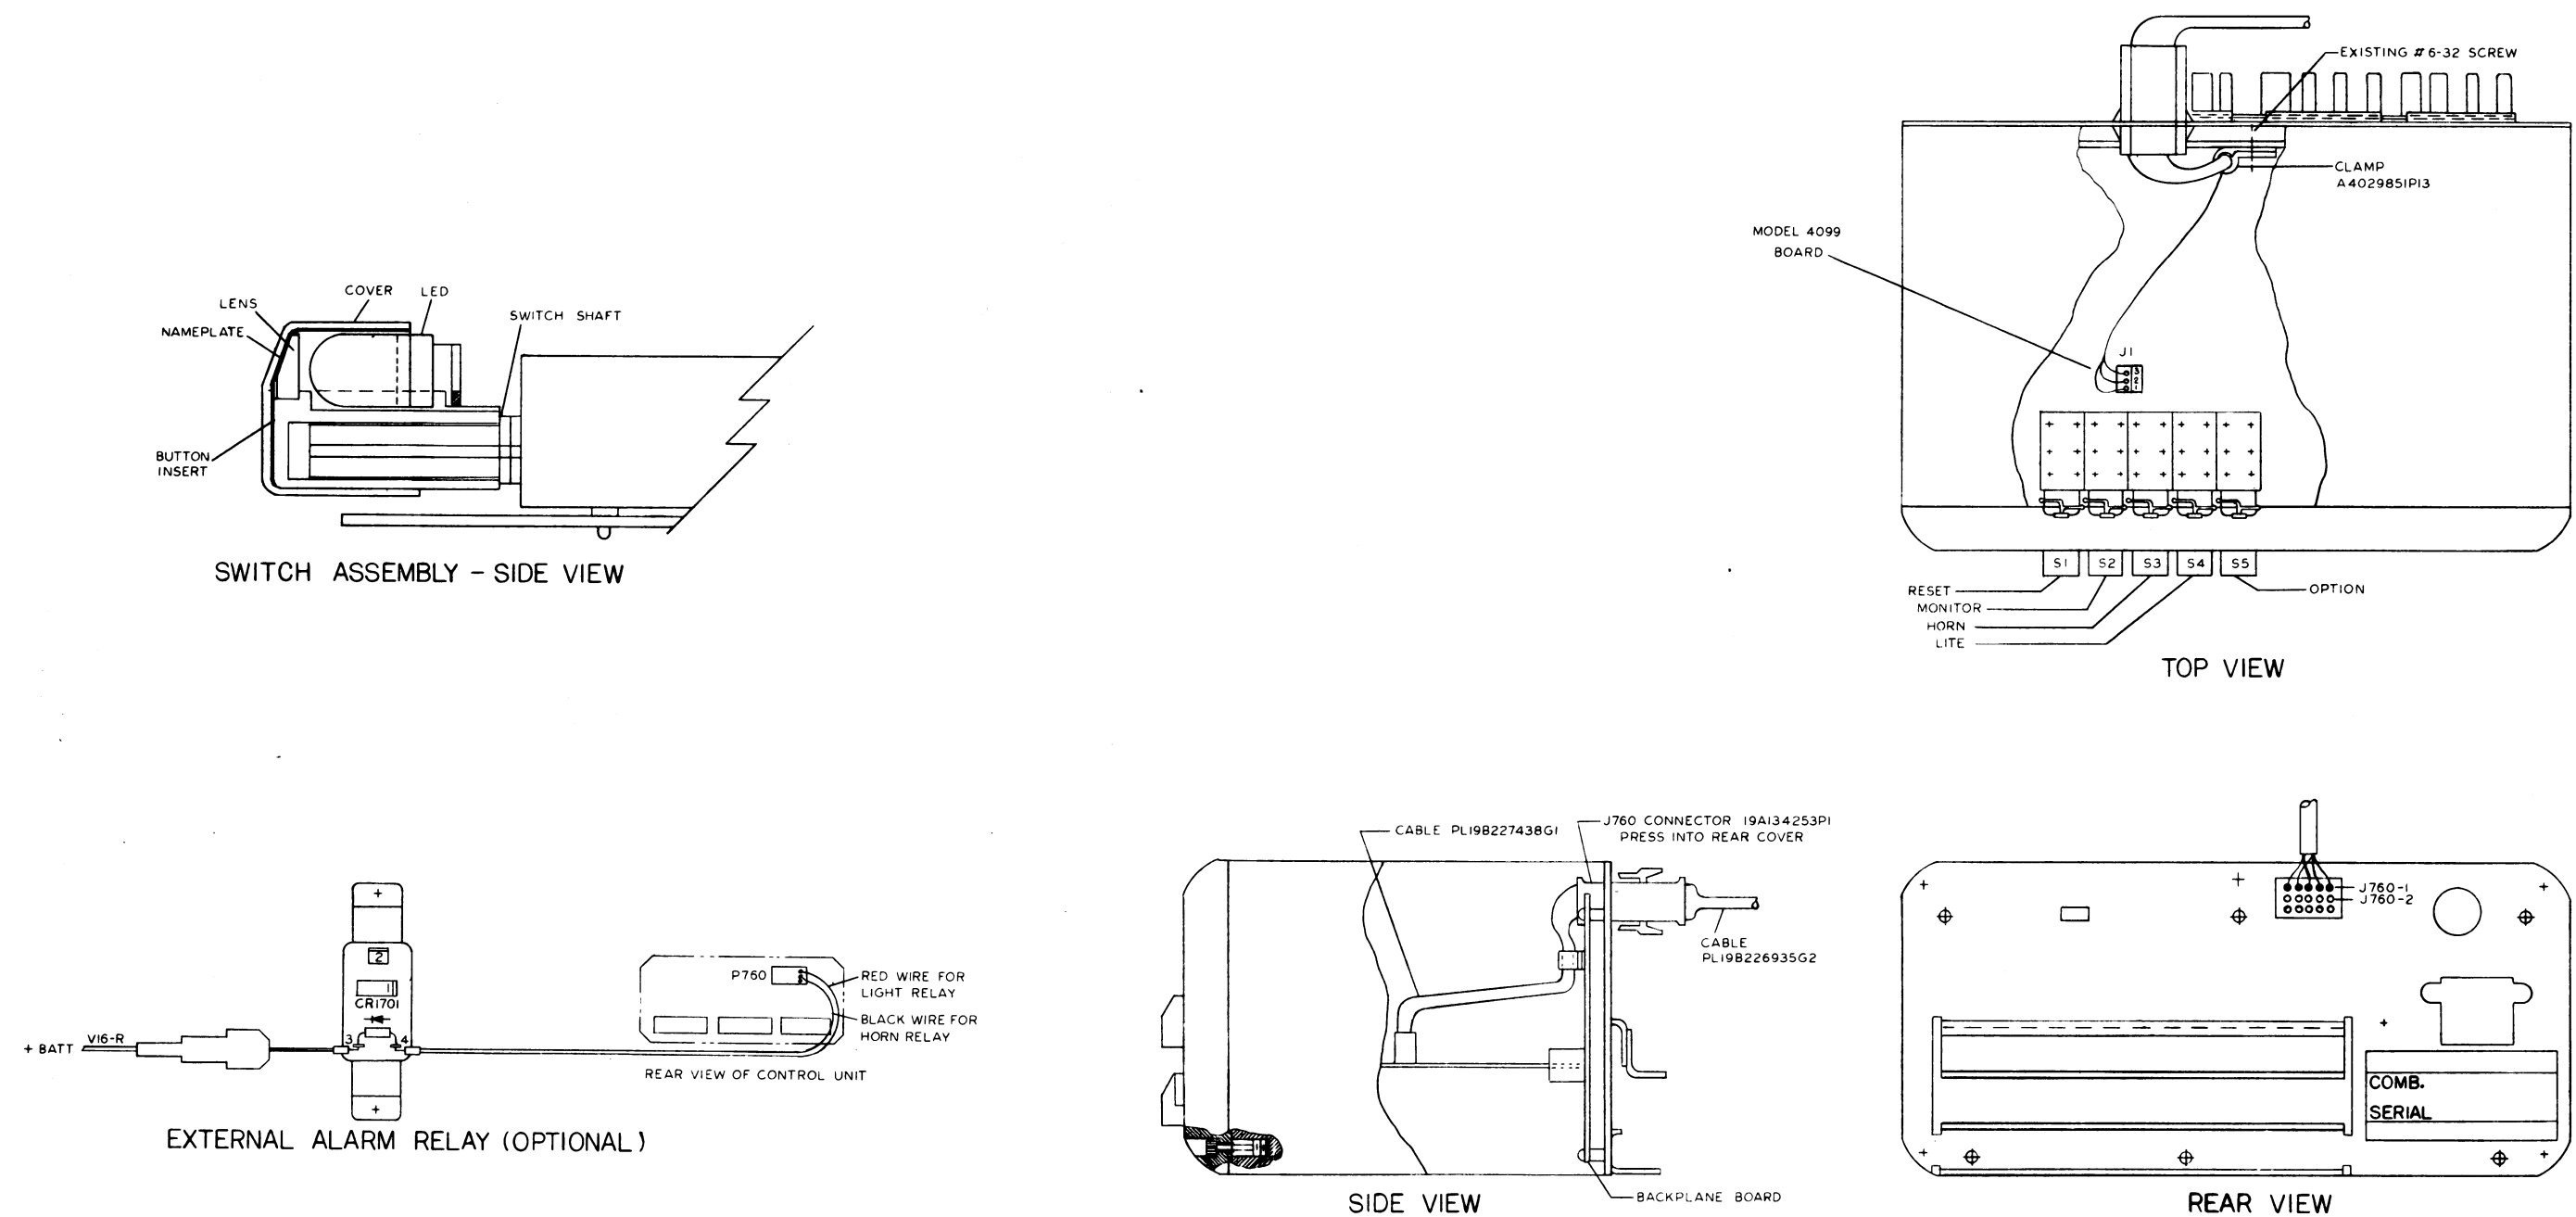

Figure 5 - Model 4099 Mobile Decoder
- Refer to Figure 5 on page 14 (4099 Installation Instructions) and Figure 6 on page 15 (4099 Component Layout)
- Install and solder the LED as shown in Figure 5
Refer to the External Relay outline in Figure 5 to locate and identify the connecting points.